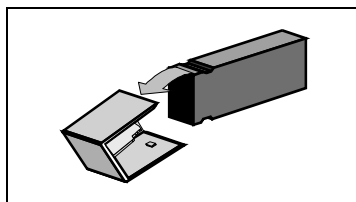

Fig. 3-3 Ejector Button Cover Removal
- 1) To remove cover, grasp front and back sides of button cover between your thumb and forefinger, squeeze cover slightly, and **carefully** rock cover off of shaft in direction of arrow shown in Fig. 3-3.